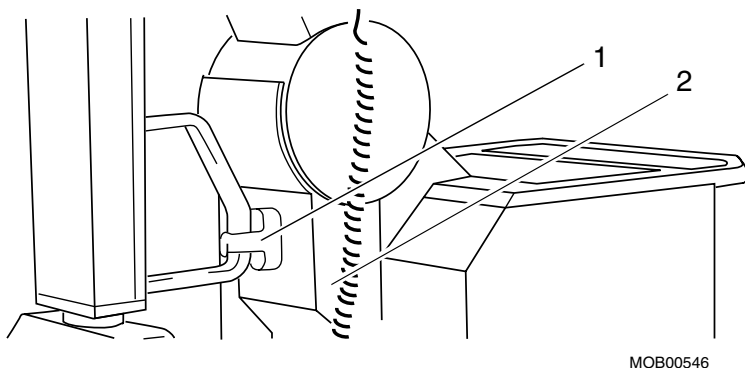

Fig. 4 Transport safeguard
1. Remove the transport safeguard (pos. 1 / Fig. 4).
3. Remove the cover of the articulated shaft (pos. 2 / Fig. 4).